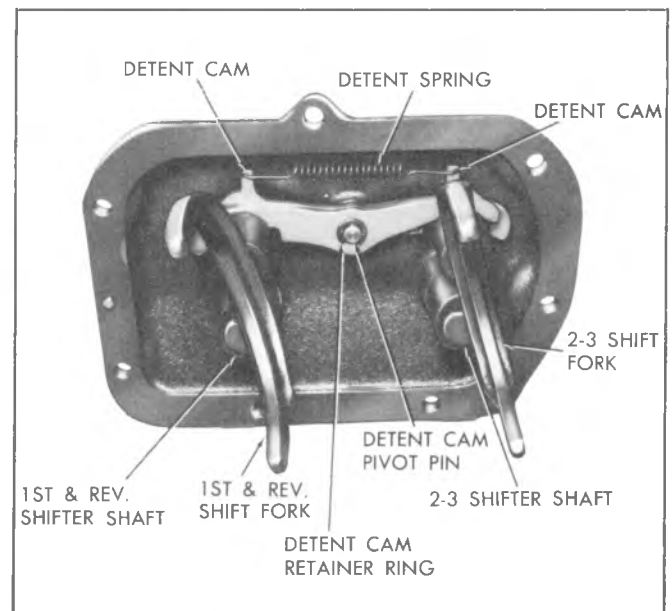

Fig. 7B-20--Transmission Side Cover Assembly
4. Slide boot and retainer up on shift lever and remove the transmission shift lever using Tool J-8109 as shown in Figure 7B-17.